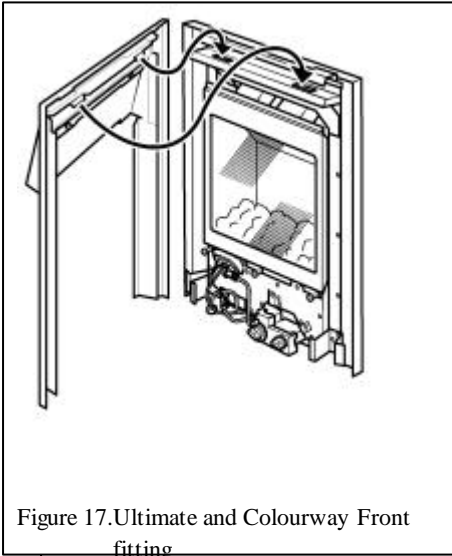

Figure 17. Ultimate and Colourway Front fitting
- Locate the two lugs at the top of the front surround in the slots in the convection box hood. Swing the bottom of the surround sides back against the convection box and lower the surround so that the lugs are fully seated in the slots in the convection box hood. See figure 17.